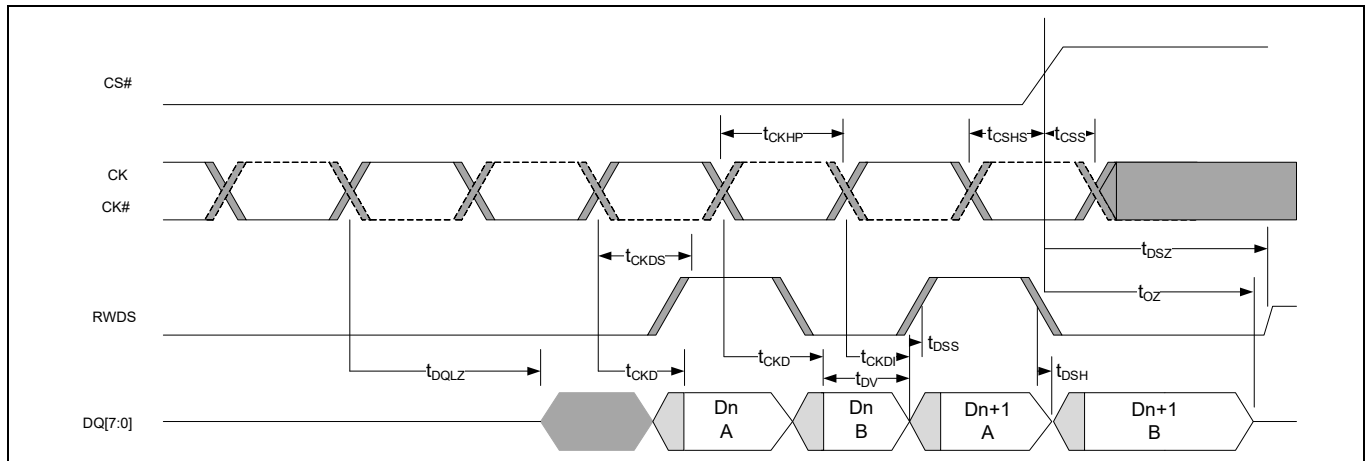

Figure 38 Data valid timing [58, 59, 60]
56. Refer to Figure 38 for data valid timing.